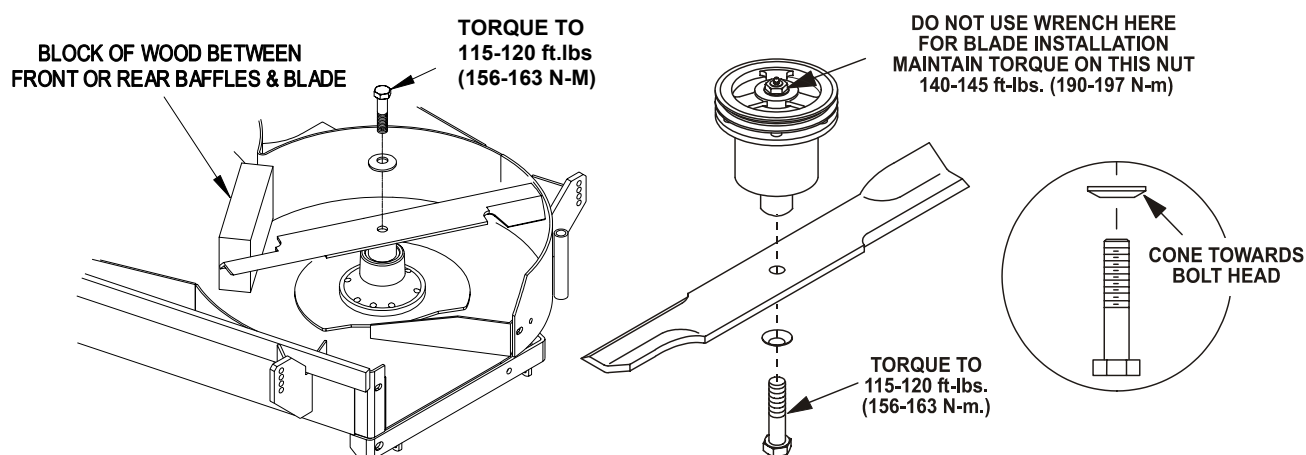

FIGURE 7
- d) Re-install the blades (if they were removed) by placing a block of wood between the front or rear baffles and the blade then torque the blade bolts to 115-120 ft. lbs (156-163 N-M). Be sure the spring disk washer cone is installed toward the bolt head. (See Figure 7).